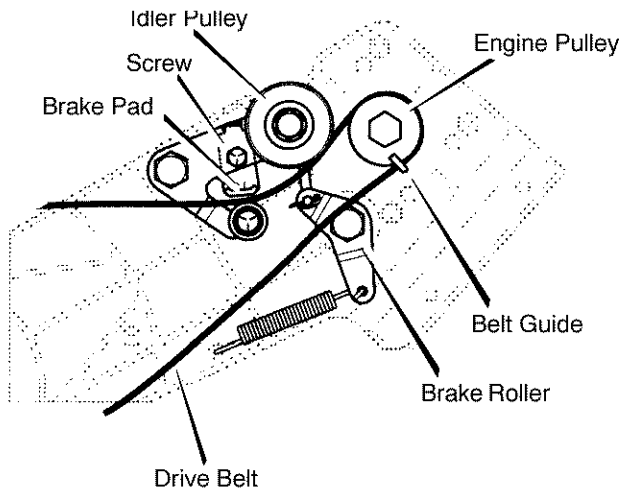

Figure 14
4. Loosen the **screw** and nut on the **brake pad arm** (Figure 14).